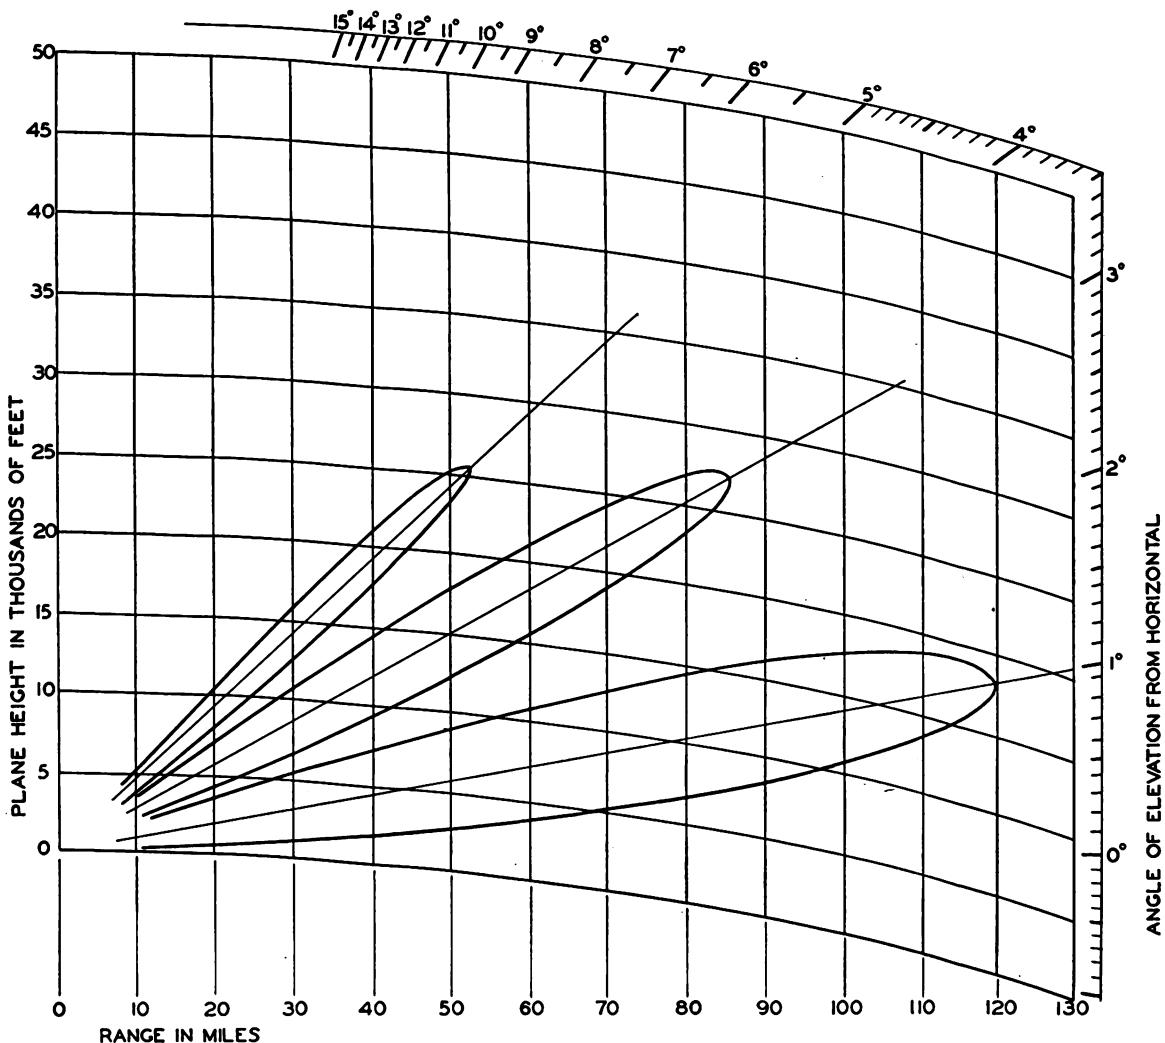

Figure 18. Antenna vertical coverage pattern, 24 foot site.
(2) Better low-angle coverage of an area is obtained if the effective height of the antenna is increased. This facilitates the detection of low-flying aircraft. With the effective height of the antenna equal to 24 feet, the main lobe makes an angle of about  $1^\circ$  with the horizontal.
(3) Figure 18 shows that a plane flying in at 20,000 feet will come in over the main lobe but will be picked up by the second lobe at about 70 miles. A plane flying in at 10,000 feet will first be picked up